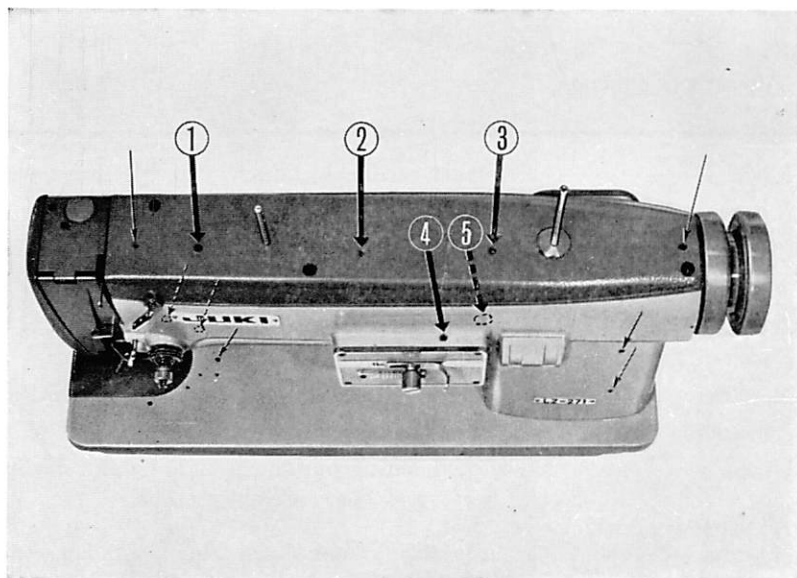

Fig. 5 Oiling holes
Lubricate the oil holes marked in red with New Defrix Oil No.1, 1 to 2 drops every day (Fig. 5). But to the holes ① ② ③ ④ ⑤ marked with heavy red mark, lubricate about 5 to 6 drops every day. There are oil reservoirs on these holes and from here all the essential parts are supplied with oil.